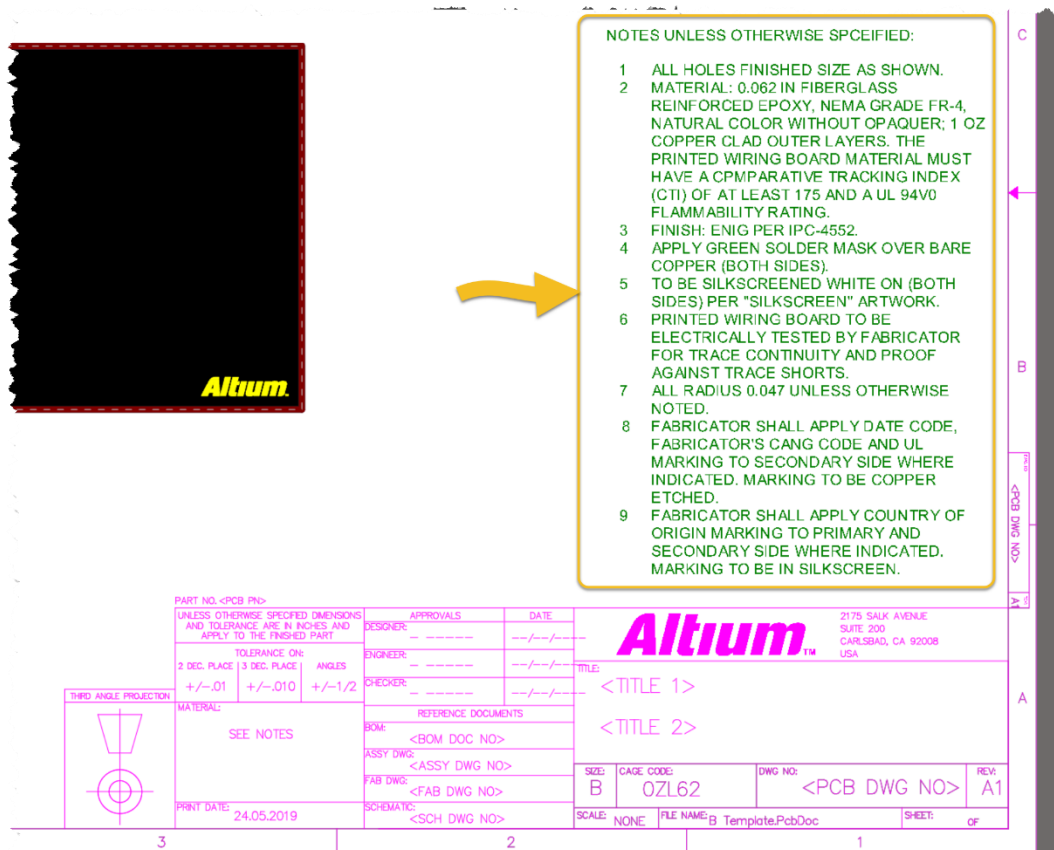

Figure 8. Place fabrication notes from file to the right side of the PCB
44. Position the text on the mouse cursor to the right side of the PCB, like Figure 8 below.